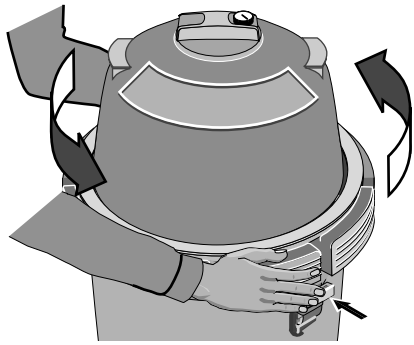

Figure 5 – Depress safety latch to unscrew Posi-Lok™ Ring.
- a. Press safety latch (below the ring) toward the tank to release it (see Figure 5).